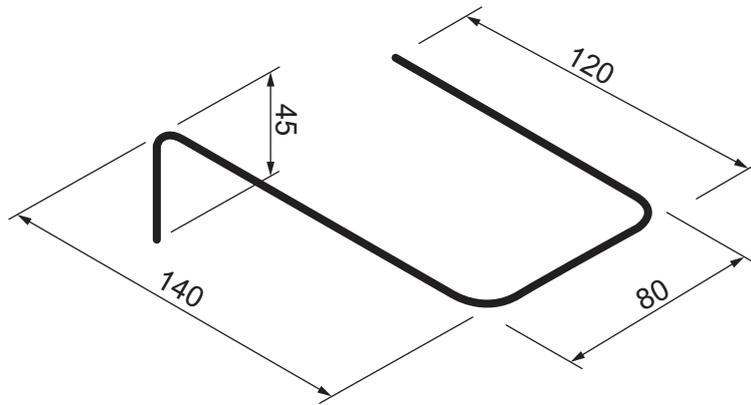

Fig. 12.4
- (c) (i) Fig. 12.4 shows the dimensions of rail **A** in Fig. 12.1.